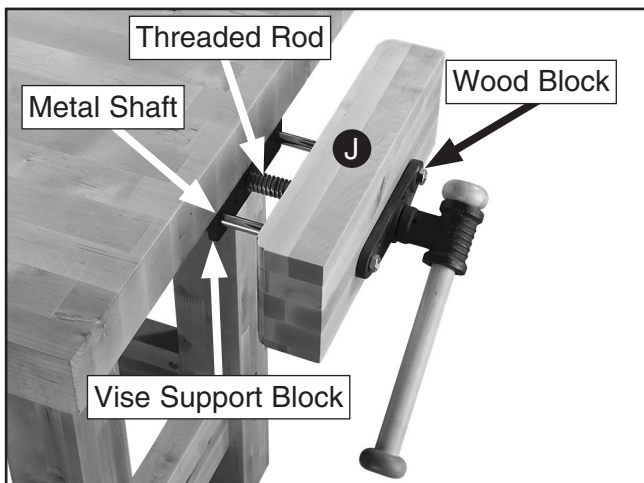

Figure 8. Vise threaded into vise support block.
- Insert the metal shafts and threaded rod of the vise through the holes in the vise wood block (J) and into the vise support block under the bench top (see Figure 8).
- Turn the vise handle clockwise until the wood block (Figure 8) just touches the table.